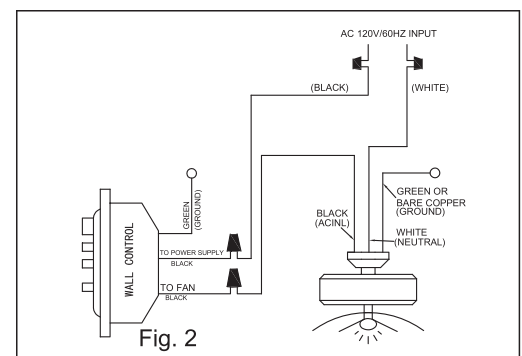

Fig. 2
Step 2. Make the electrical connections as shown in Fig.2. If your outlet box has a ground wire (Green or Bare Copper) connect the Wall Transmitter’s ground wire to it. Otherwise connect the Wall Transmitter’s wire directly to one of the screws from the outlet box . Secure all wire connections with the plastic wire nuts provided.